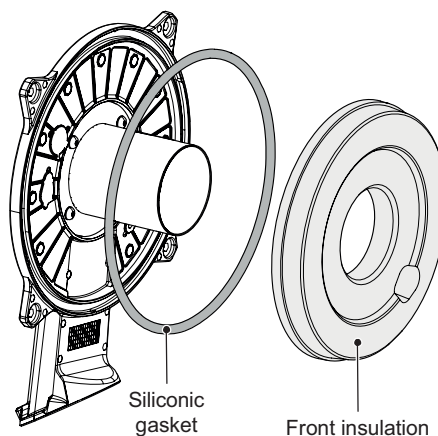

Figure 15.3
- 2 Remove the front insulation panel by sliding it forward (Figure 15.3).
After any periodical servicing or disturbance the combustion chamber silicon seal (Figure 15.3) must be fully inspected and replaced at the discretion of the service engineer. After any disturbance to the chamber door seal the appliance must undergo a full analytical combustion performance check.